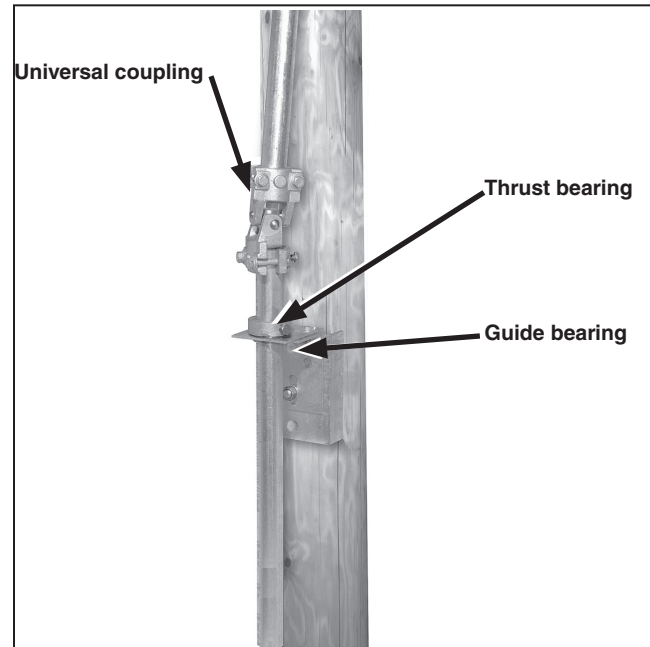

Figure 6. Position of the thrust and guide bearing. Thrust bearings will be positioned on top of guide bearings.
- STEP 5.** Pass the lowest section of vertical operating pipe up through the guide bearing and then through the thrust bearing, and insert the pipe section into the universal coupling (or, if an intermediate guide bearing assembly is used, pass the vertical-operating-pipe section up through the guide bearing and insert the pipe section into the rigid coupling). Figure 6.